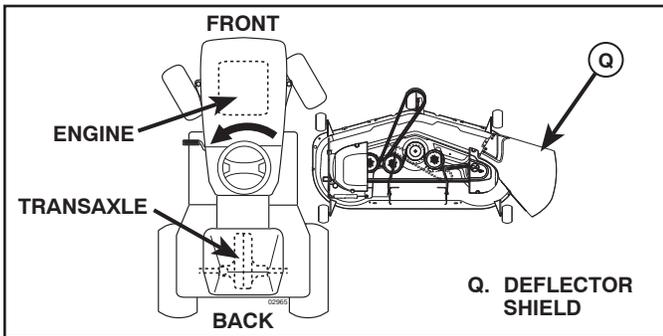

Fig. 22
3. TURN STEERING WHEEL LEFT AND POSITION MOWER (See Fig. 22)
- Turn steering wheel to the left as far as it will go and position mower on right side of tractor with deflector shield (Q) to the right.